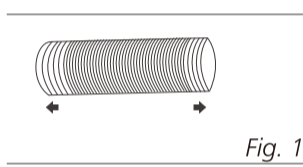
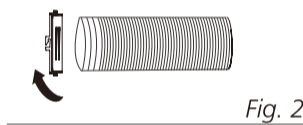

Fig. 1
Fig. 2
- 1 Extend either side of the hose (Fig.1)and screw the hose inlet (Fig.2).